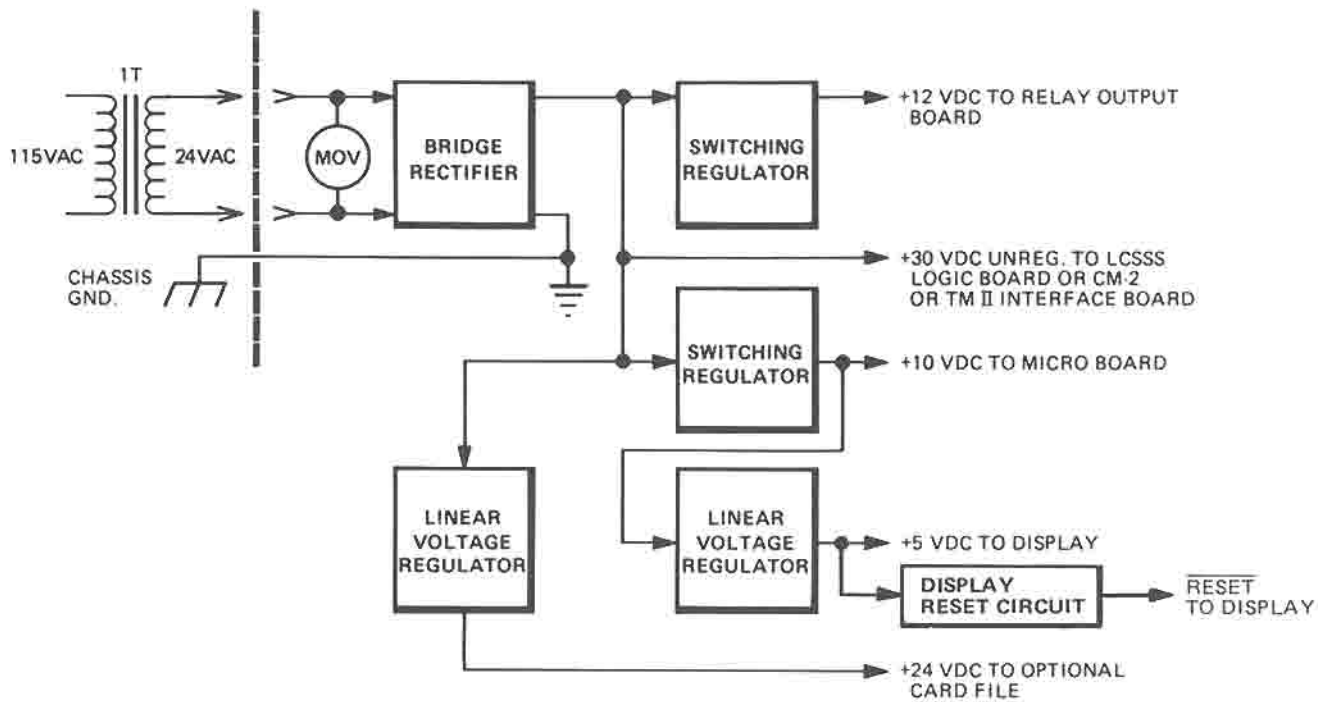

FIG. 24 — POWER SUPPLY BOARD BLOCK DIAGRAM
**POWER SUPPLY BOARD (Ref. Fig. 24 & 25)**